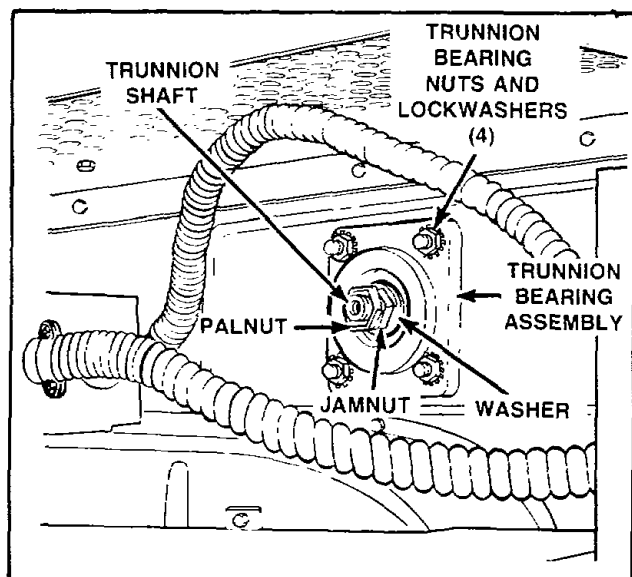

Figure 16
- j. Remove palnut, jamnut and washer from end of trunnion shaft located at rear of unit. *Figure 16*
#### 18. TRUNNION BEARING ASSEMBLY (Figure 16)